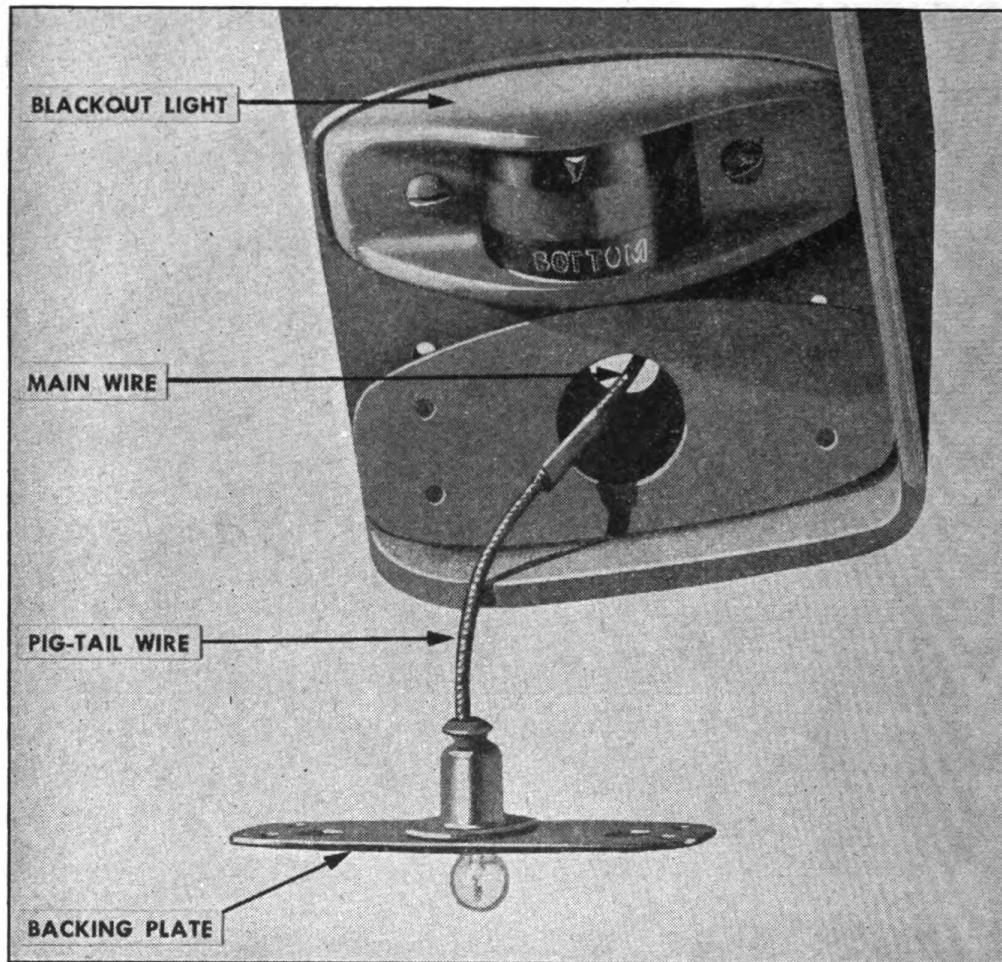

FIGURE 56. CLEARANCE LIGHTS—DISASSEMBLY, STEP 3.
d. Disconnect the pigtail wire from main line, and separate the rubber gasket from plate (Fig. 56).
b. NOTE: When replacing lens in blackout light be sure the "arrow" on lens is pointing down and that the word "BOTTOM" is at the bottom of the light as shown in (Fig. 56).